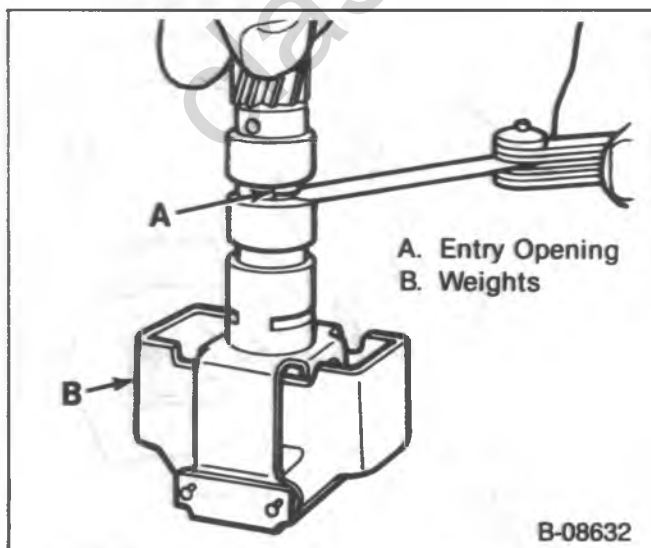

Figure 70—Measuring the Governor Valve Entry Opening
- Valve entry opening. With the weights held all the way outward, the opening should be 5.1 mm (0.020 in.) (Figure 70).